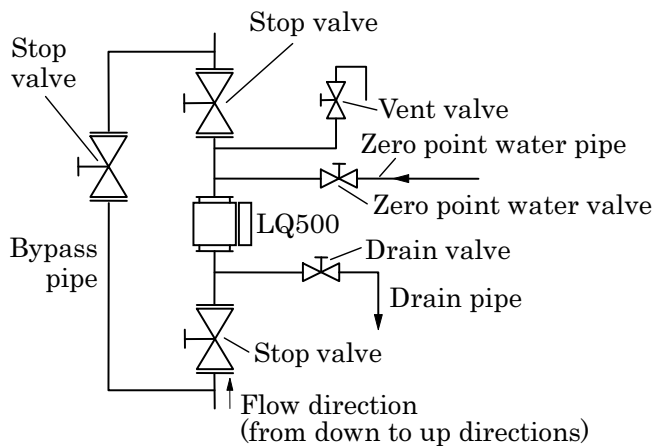

Figure 6. Recommended Installation (vertical installation)
- (9) To minimize the impact of the bubbles mingled, it is recommended that the meter be installed on a location as far as possible from the pipe outlet for air release but still within the distance where a reasonable degree of hydraulic pressure is applied.
- (10) In the event that the density meter may no longer be full of the fluid while the pump is shut down or the density distribution in the density meter may become uneven, make sure to take measurements only while the pump is operating by using the external synclonized function.
- (11) Take necessary measures to prevent vibration from a pump or other equipment applied to the density meter transmitted through the piping.
- (12) On both the upstream and downstream sides of the density meter, install stop valves. Furthermore, between these valves and the density meter, install the sampling port, the zero water supply port, the air release port, the drain port with a stop valve attached respectively. In the event that the flow of the pipe line cannot be stopped, provide a bypass pipe halfway with a stop valve attached. When performing zero point calibration, these are needed to discharge the measured matter out of the density meter through its drain port and fill up the meter with fresh water of zero density. (See Figure 6 and Figure 7)
- (13) As for gaskets to be used in piping, select the one with the dimension conforming to the flange standard and of the material appropriate for the substance to be measured.
- (14) The front side of the density meter's converter section is equipped with an VFD density display section. When installing the meter, choose a location and direction in which this density display section will be easily visible.
- (15) If the cover of the density meter is removed or the density meter is disassembled while the meter is powered, radio waves will leak out. (However, the amount is about equal to PHS and one tenth of mobile phones.)
- (16) For both horizontal and vertical piping systems, install a support stand under the density meter with bolts put through the installation holes (M8 size) on the bottom of the density meter. Then install the support stand together with the density meter to a solid ground or wall. Bolts (four M8 bolts) are not attached as accessories of the density meter. Please prepare these bolts separately